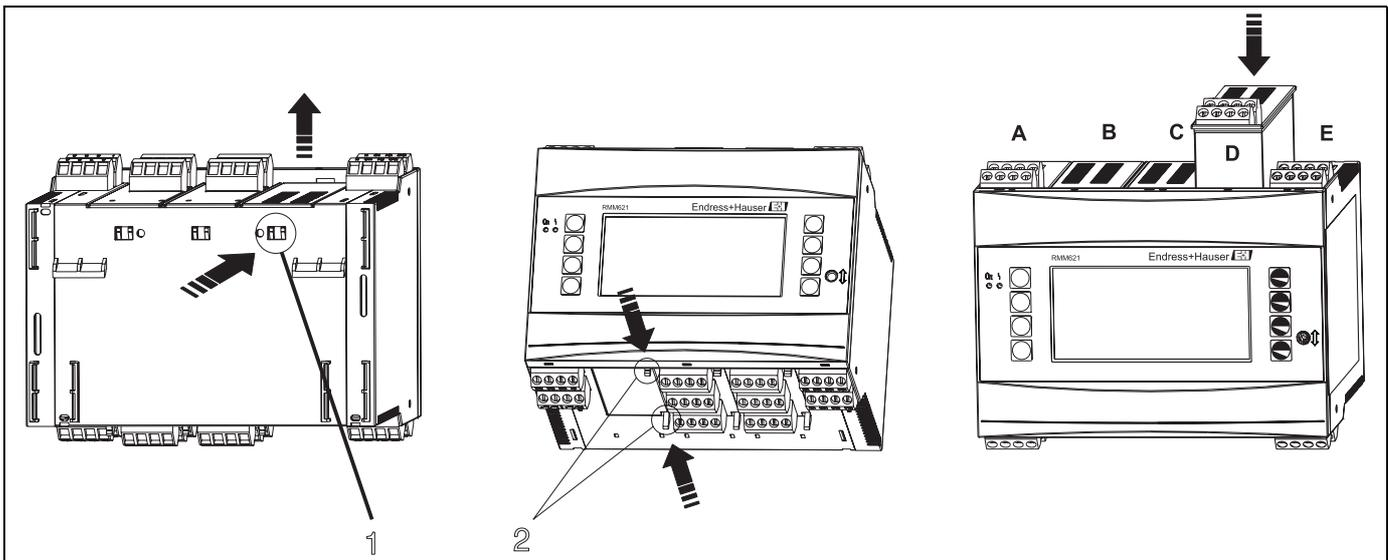

Fig. 3: Installing an extension card (example)
You can equip the device with various extension cards. A maximum of three slots are available in the device for this. The slots for the extension cards are marked with B, C and D (→ Fig. 3) on the device.
2. Remove the blanking cover from the slot (B, C or D) of the basic unit by pressing together the catches on the bottom of the energy manager (see Fig. 3, item 2), while at the same time pressing in the catch on the rear of the housing (e.g. with a screwdriver) (see Fig. 3, item 1). Now you can pull the blanking cover up out of the basic unit.
3. Insert the extension card into the basic unit from above. The extension card is not correctly installed until the catches on the bottom and rear of the device (see Fig. 3, items 1 and 2) lock into place. Ensure that the input terminals of the extension card are on top and the connection terminals are pointing to the front, as with the basic unit.